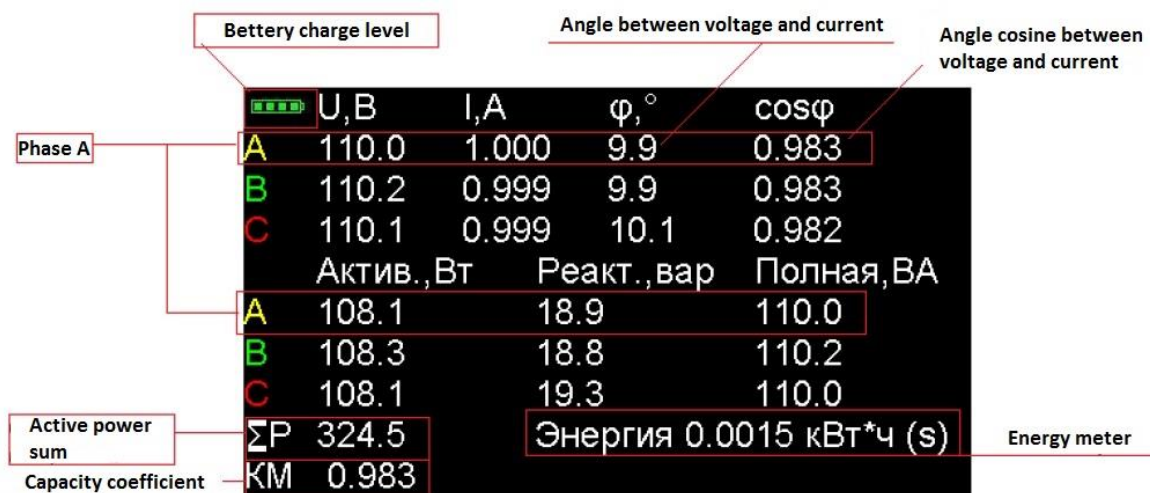

Fig. 4. Indication of the 2nd mode on the LCD of the device.
6.2.3 To measure power and phase shifts the connections similar to those made for voltage and current measurements are performed. Active, reactive and full power and energy are read from the screen as it shown on Fig. 4, in watts, Var and volt-ampere respectively. To determine the sequential order of the phases in a three-wire circuit, you should switch to the 1st mode on the device to display vector diagrams.
Capacity coefficient, actual power sum, cosine of shift in each phase are displayed on the screen (fig. 4).